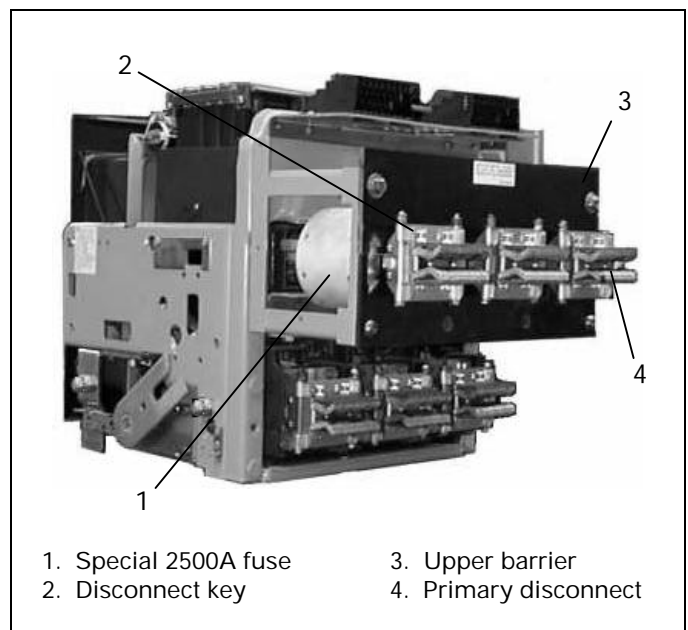
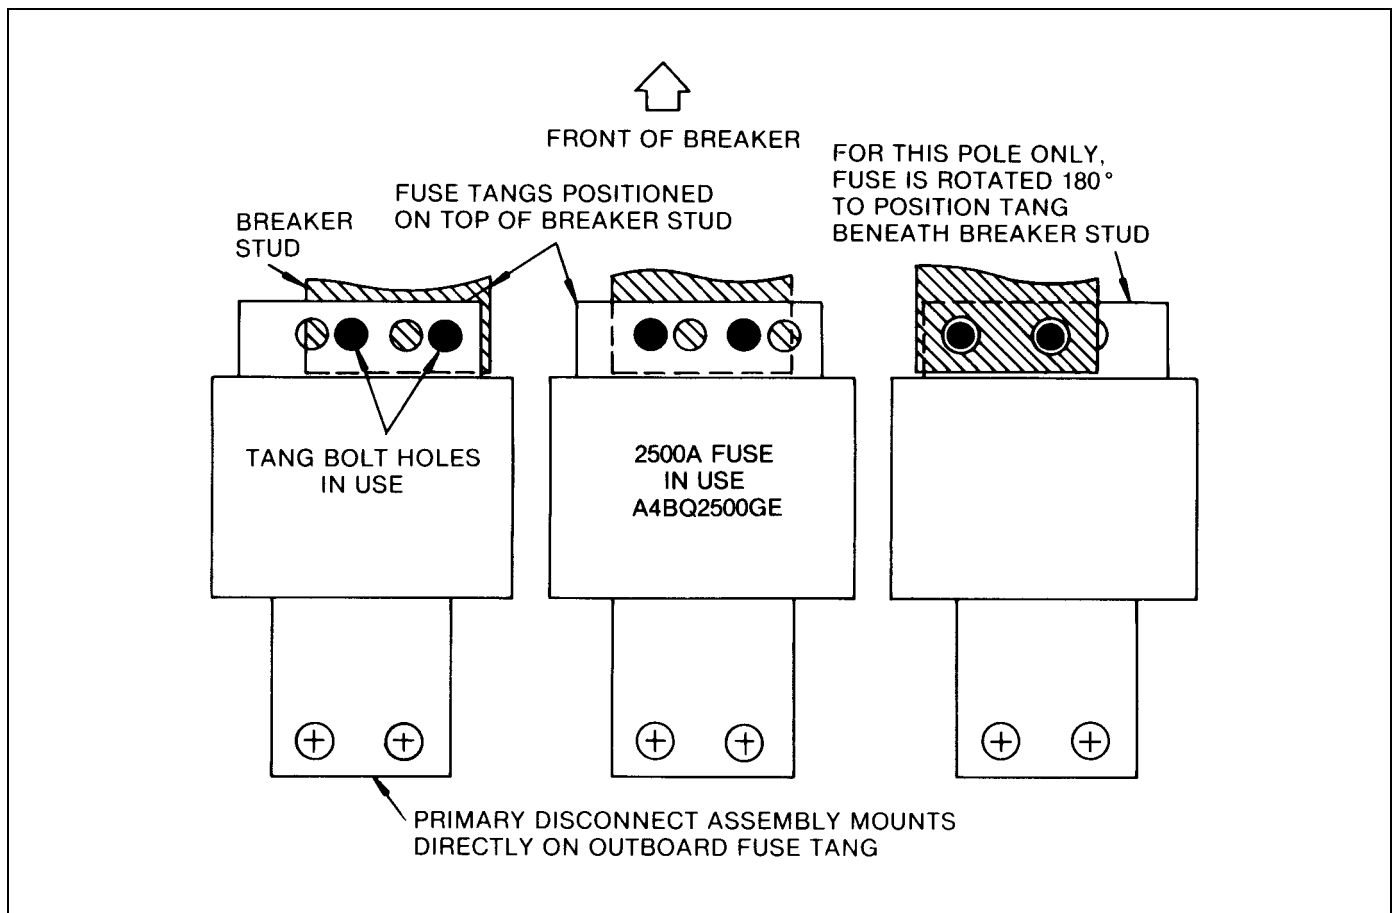
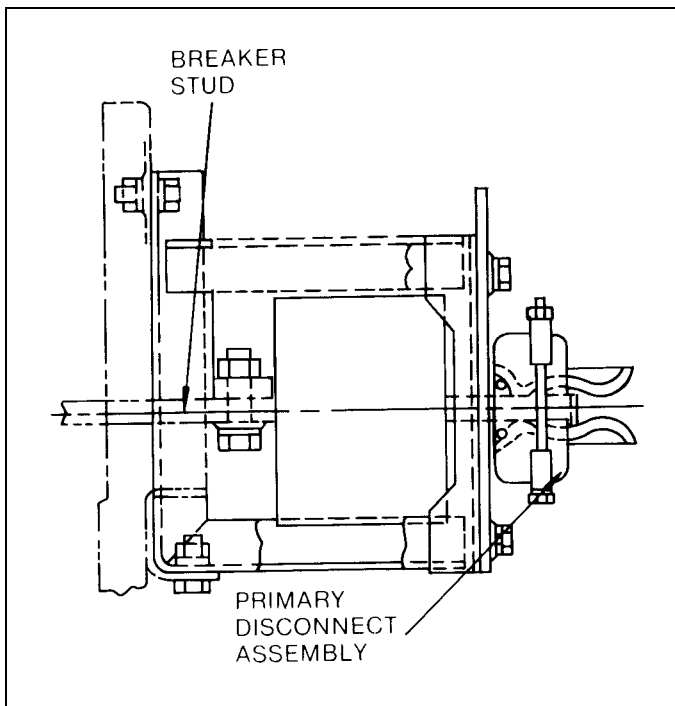

Fig. 5-14. EGF-16 breaker with special 2500-ampere fuse
Fig. 5-15. Plan view of EGF-16 breaker showing 2500-ampere fuse tang positions
Fig. 5-16. Mounting for special 2500-ampere fuse on EGF-16 breaker
A special fuse is available for use with EGF-16 breakers. This fuse provides a melting time-current characteristic that coordinates with 1600A trip electronics. Compared physically with a 2500A, NEMA Class L fuse, the special fuse is more compact (shorter) and its tangs are specially configured and offset to achieve the required pole-to-pole fuse spacing. A special primary disconnect assembly mounts directly on the outboard tang of the fuse. Because of their unique mounting provisions, the following procedure should be adhered to when replacing these fuses (Fig. 5-14):
1. Remove the primary disconnect assembly from the fuse tang. This is accomplished by first loosening the two keys (2), Fig. 5-14, via their holding screw and pulling them upward and out. After the keys are removed, pull the disconnect assembly off the end of the fuse tang.
2. Remove the upper barrier (3).
**CAUTION:** When replacing the fuse in the right pole (plan view) of the breaker, note particularly that this fuse is mounted differently from the other two fuses. As shown in Fig. 5-15, for this phase the fuse is rotated 180 degrees about its axis so that its inboard tang is positioned beneath the breaker stud. This tang is offset with respect to the opposite end, (Fig. 5-16), so that rotating the fuse does not alter the position of the primary disconnect.
**ATTENTION:** Lorsqu'on procède au remplacement d'un fusible dans le pôle droit (vue de plan) du disjoncteur, prendre note que ce fusible en particulier est monté différemment des deux autres fusibles. Tel que montré à la Fig. 5-15 pour cette phase le fusible est tourné de 180° autour de son axe de façon à ce que son axe intérieur soit positionné sous le plot du disjoncteur. Cette queue est déplacée en tenant compte du bout opposé (Fig. 5-16), pour que le fusible en rotation n'altère pas la position du débranchement primaire.